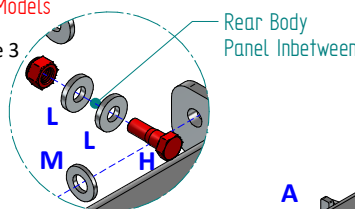

Figure 5
4. Loosely fix item **D** and item **E** to item **A** using items **G** and items **F** to the position as shown in **Figure 5**.